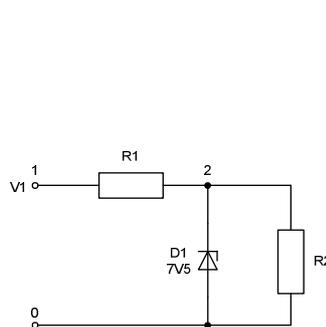

Fig.21.1
21.3.1 Simulation of voltage regulator with Zener diode model. File STAB1.CIR. Fig 21.1.